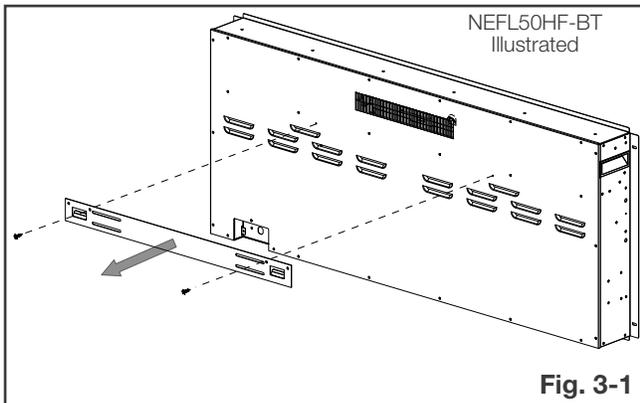

Fig. 3-1
- D. Place the appliance face down on a soft, non-abrasive surface. Remove the wall mounting bracket from the back of the appliance by removing the two screws (**Fig. 3-1**). Set the bracket aside and discard the screws.